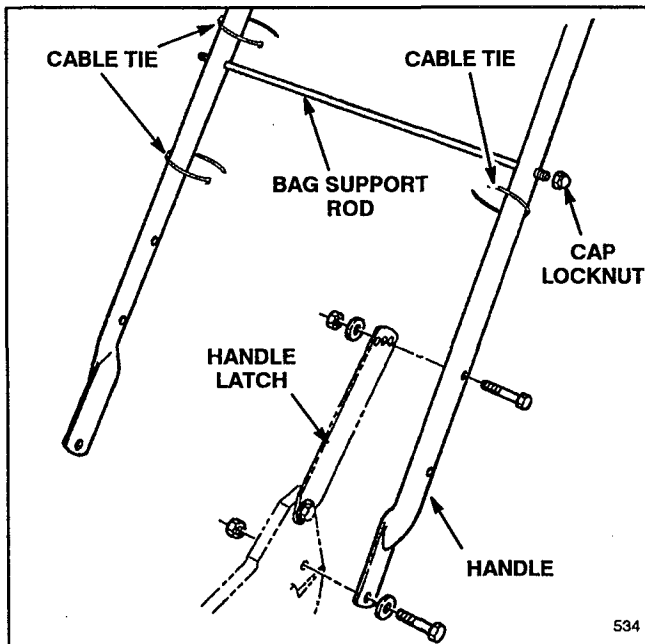

Figure 1
3. Slide bag support rod thru top mounting holes in handle and secure each end with a cap locknut (Fig. 1).